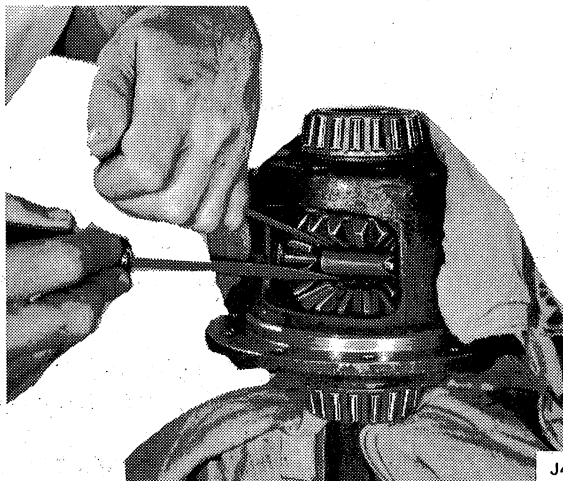

Fig. 2F-64 Pinion Mate Shaft Snap Ring Removal
(6) Remove ring gear from case using rawhide hammer.
(7) Remove differential case from axle shaft and remove ring gear.
(8) Remount differential case on axle shaft.
(9) Remove snap rings from pinion mate shaft (fig. 2F-64). Use two screwdrivers to disengage snap rings. Place shop towel on opposite opening of case to prevent snap rings from flying out of case.